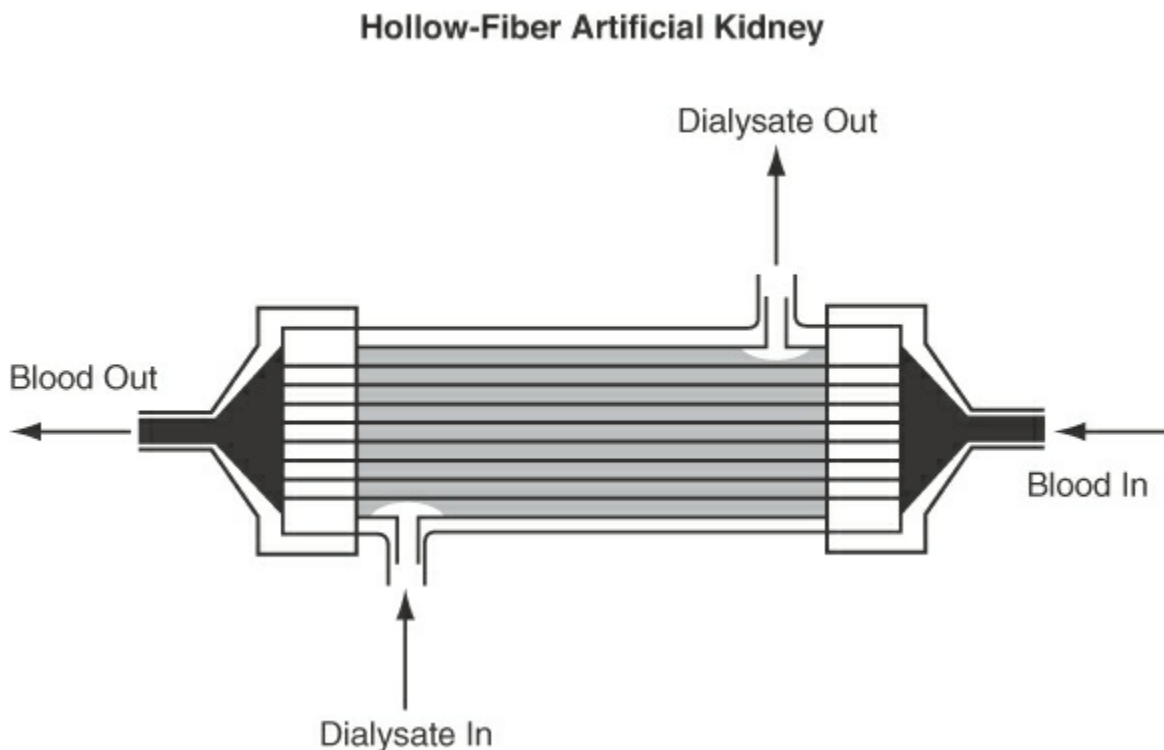

Figure P3.4.4
- *3.4.4** Figure P3.4.4 is a sketch of an artificial kidney, a medical device used to remove waste metabolites from the blood in cases of kidney malfunction. The dialyzing fluid passes across a hollow membrane, and the waste products diffuse from the blood into the dialyzing fluid.